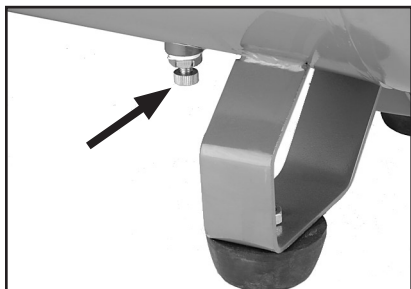

Figure 8. Drain valve.
6. Close the drain valve (**Figure 8**) to allow the tank to build up pressure.